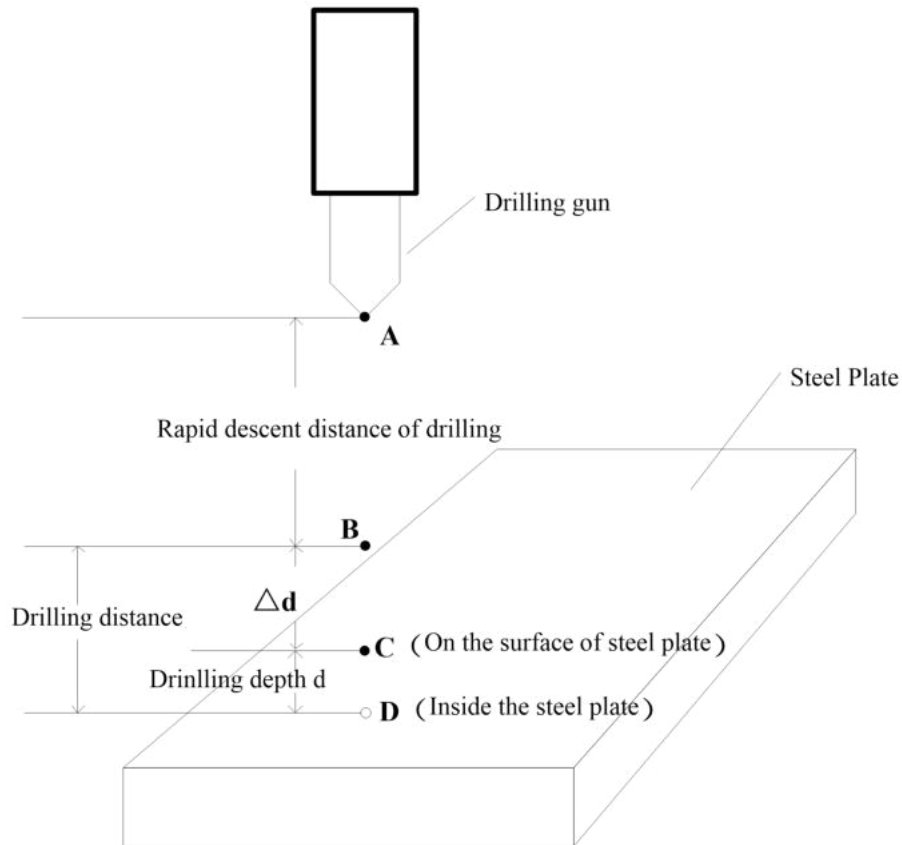

Figure 14.6 Schematic diagram of borehole descent
1. Manual drop the drill near the plate surface until the drill shaft is near the drill starting position. Position B in Figure 14.6.